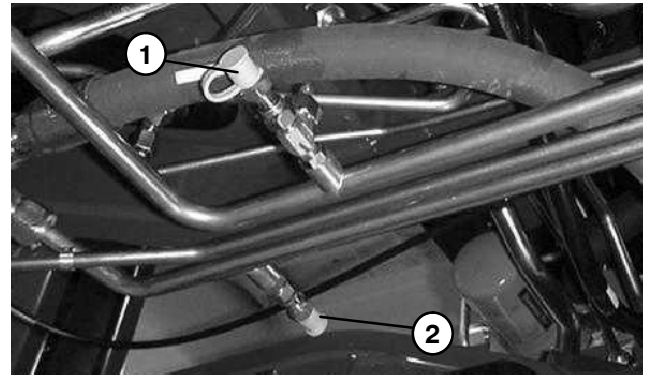

Figure 26
3. Connect a 10,000 psi gauge to traction circuit test port for function to be checked (Fig. 26). Test ports are located on hydraulic lines toward the front of machine. Forward traction port faces the front and reverse port faces rearward.